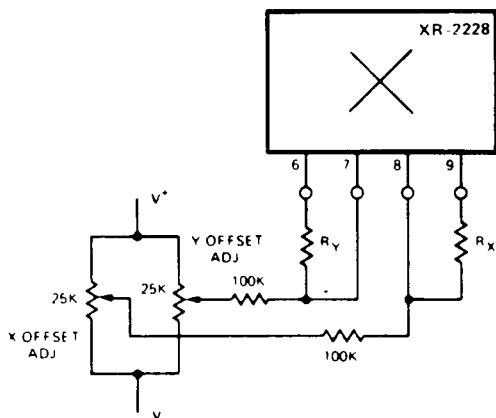

Figure 13. Offset Adjustment
**FEEDTHROUGH:** The amount of peak-to-peak output voltage present with one input grounded and a specified peak-to-peak input applied to the other input. Feedthrough is a function of multiplier offsets and can be minimized by offset adjustment (see Figure 13).
where  $\sigma_x$  and  $\sigma_y$  are the offset voltages associated with the respective inputs,  $\sigma_o$  is the offset voltage of the output.  $V_z$  is the multiplier output,  $V_x$  and  $V_y$  are the multiplier inputs. As shown in Figures 13 and 14, each of these offset voltages can be nulled to zero by external adjustments.
**X AND Y OFFSET ADJUST (Pins 7 and 8):** Two of the gain-control terminals, pins 7 and 8, are also used for adjusting X and Y offsets. Figure 13 shows the typical adjustment circuitry which can be connected to these pins to null-out input offsets.